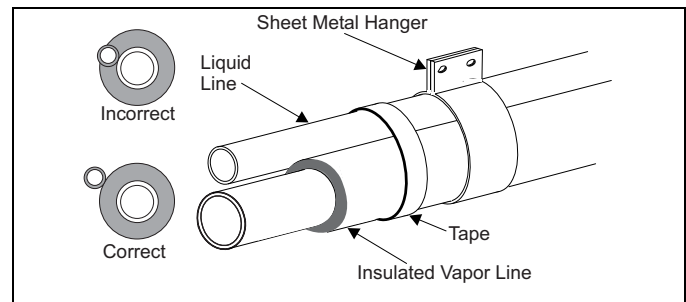

FIGURE 2: Tubing Hanger
5. Tape and suspend the refrigerant lines as shown. DO NOT allow tube metal-to-metal contact. See Figure 2.